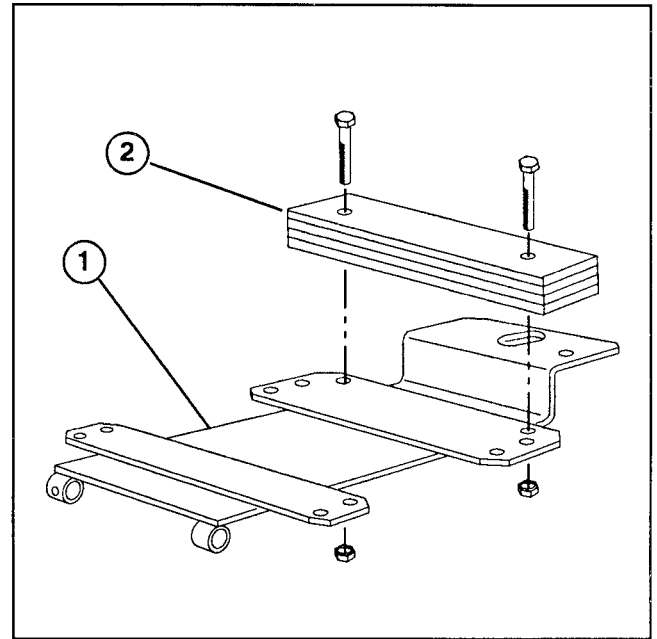

Figure 9
1. Mount weight assembly to rear holes in seat support with (2) 5/16-18 x 2-1/4" lg capscrews and locknuts (Fig. 9).